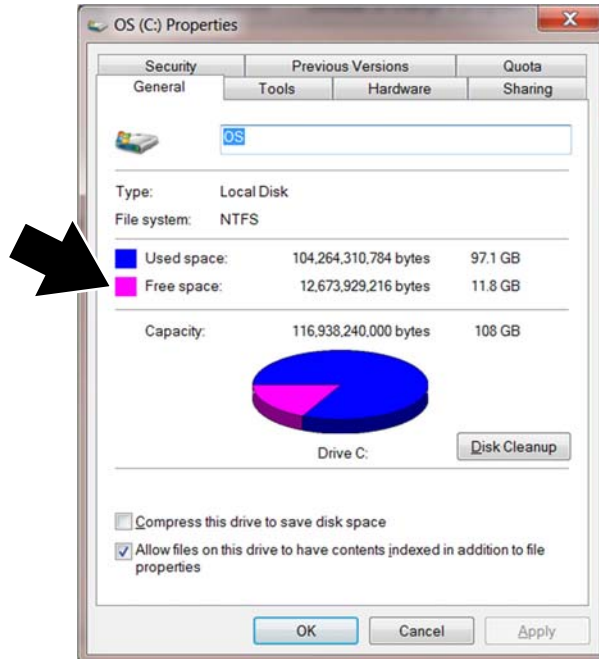

Figure 3-1 Typical PC hard drive free space details
2. Select your local drive, or the drive where the SSC software will reside and select **Properties** or **View > Details** (Figure 3-1).